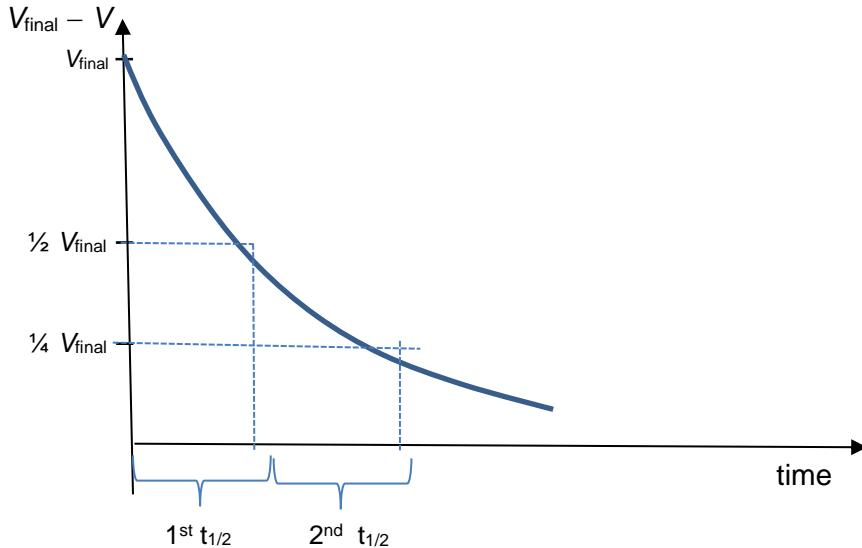

Fig 4.1
- (iii) Sketch, on Fig 4.1, the graph of $V_{\text{final}} - V$ against time you would expect to obtain if the order of reaction with respect to $[\text{C}_6\text{H}_5\text{N}_2^+\text{Cl}^-]$ is one.